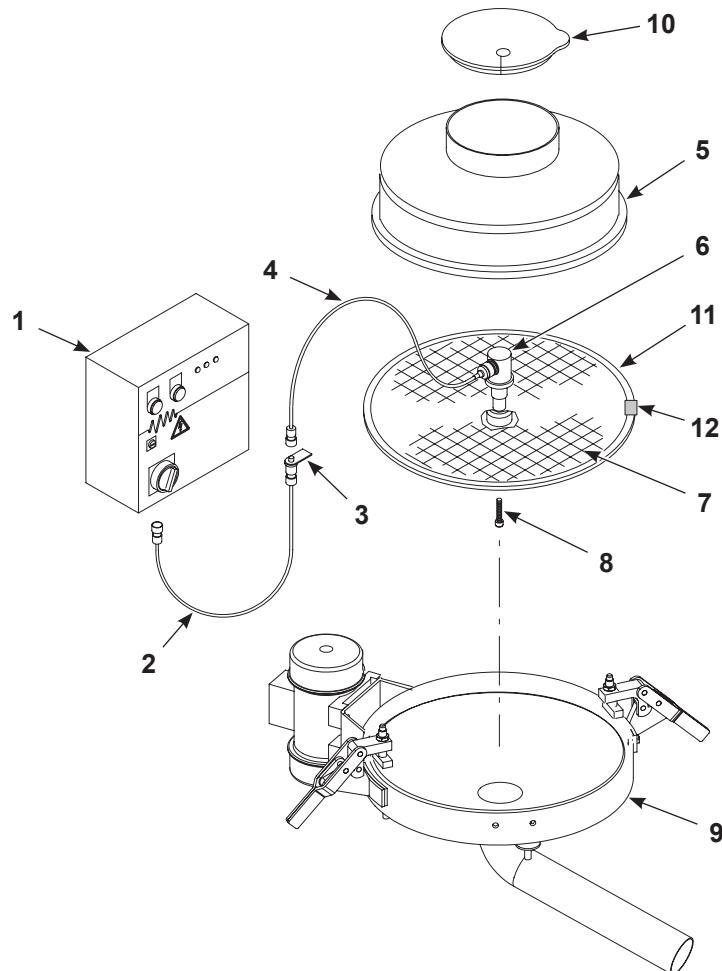

Figure 10-3 Vibrasonic System Components
See Figure 10-3.
1. See Figure 10-3. Clean the sieve screen's (7) center hub and the bottom of the transducer (6) with acetone.
2. Place the transducer on the center hub of the sieve screen. Hand tighten the cap screw (8) through the bottom of the sieve screen.
4. Install the U-gasket (11) and ground clip (12) on the screen.
5. Set the sieve screen into the vibratory sieve (9). Plug the transducer cable (4) into the transducer, route the cable through the sieve deck (5), then clamp the sieve deck onto the sieve pan.
6. Slide the transducer cable through the slit in the plug (10), then install the plug into the sieve deck.
1. See Figure 10-3. Make sure that the voltage selector on the controller (1) is set to your system's electrical supply specification.